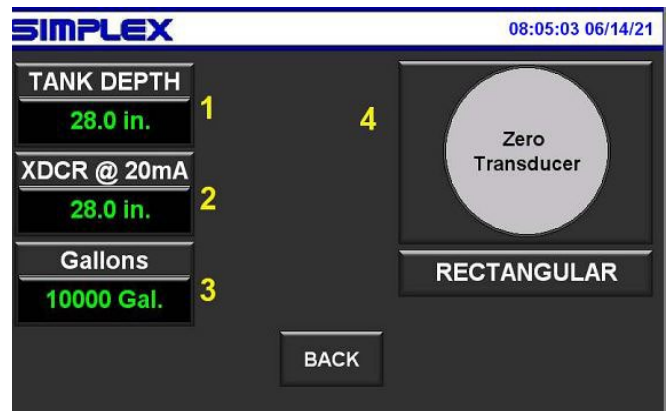

Figure 8: Transducer Calibration Screen
4. **Zero Transducer** button – Once all the above information has been entered, press the Zero Transducer button to complete the calibration process. (See **Figure 8**)